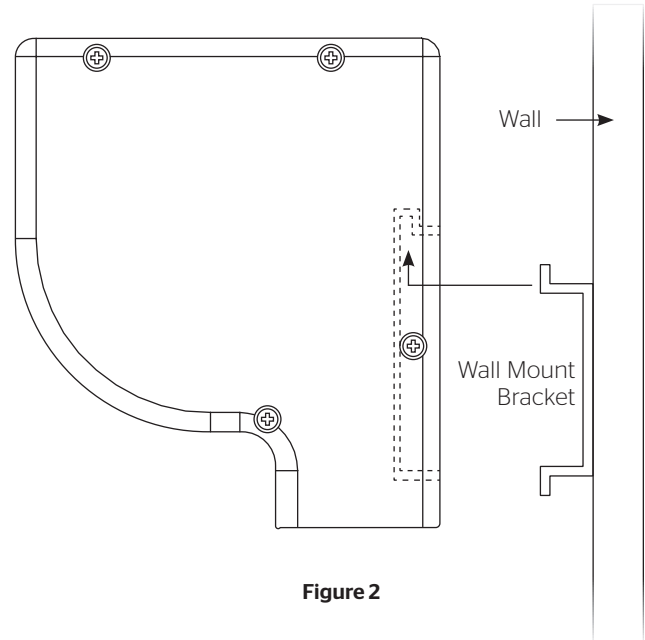

Figure 2
2. Secure the wall mount bracket to the wall at the desired height. The wall mount bracket should be fastened to the wall studs or some reinforcement within the wall. Concrete or brick walls require special fasteners and anchors. Allow at least 2-3/8" above the wall mount bracket to be able to position the case on the bracket (Figure 2).
4. Hang the screen case on the wall mount bracket as shown in Figure 2. Be sure the case is fully seated on the bracket.